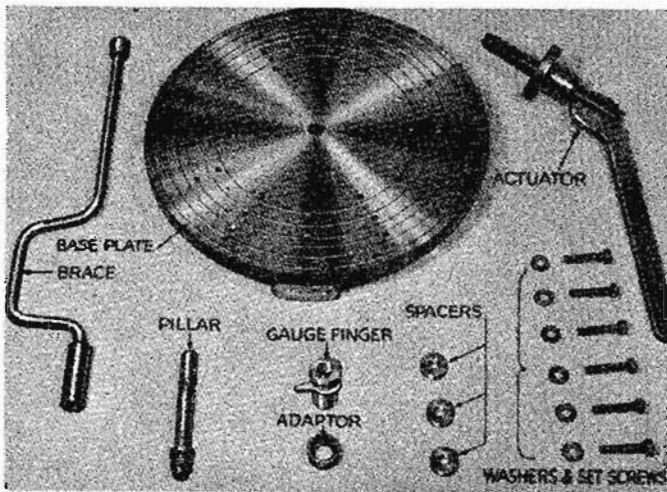

Fig. 7 Clutch Assembly Fixture (Churchill Tool No. 99A) as used with 9" clutch.
26. DISMANTLING THE COVER ASSEMBLY USING THE CHURCHILL FIXTURE No. 99A (Fig. 7)